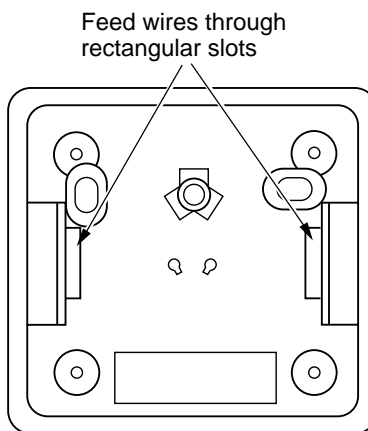

Figure 49 - Back View of Thermostat Base
6. Feed the electrical wires through the rectangular slots (from the back) on each side of the base (see Figure 49).